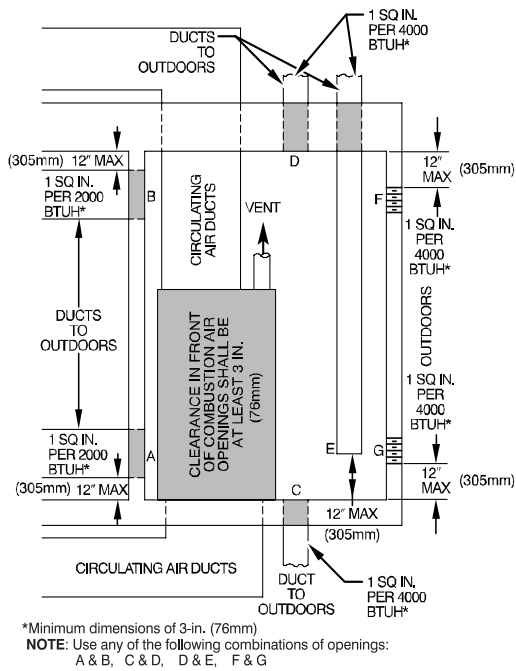

Fig. 6 – Air for Combustion, Ventilation, and Dilution for Outdoors L12F012
2. Fig. 6 illustrates how to provide TWO OUTDOOR OPENINGS, one inlet and one outlet combustion and ventilation air opening, to the outdoors.
- b. Size openings and ducts per Fig. 6 and Table 4.
- c. TWO HORIZONTAL DUCTS require 1 sq. in. (645 sq. mm) of free area per 2,000 BTU/h (1,100 mm²/kW) of combined input for all gas appliances in the space per Fig. 6 and Table 3.
- d. TWO OPENINGS OR VERTICAL DUCTS require 1 sq. in. (645 sq. mm) of free area per 4,000 BTU/h (550 mm²/kW) for combined input of all gas appliances in the space per Fig. 6 and Table 3.
- a. 1 sq. in. (645 sq. mm) of free area per 3,000 BTUh (734 mm²/kW) for combined input of all gas appliances in the space per Fig. 6 and Table 4.